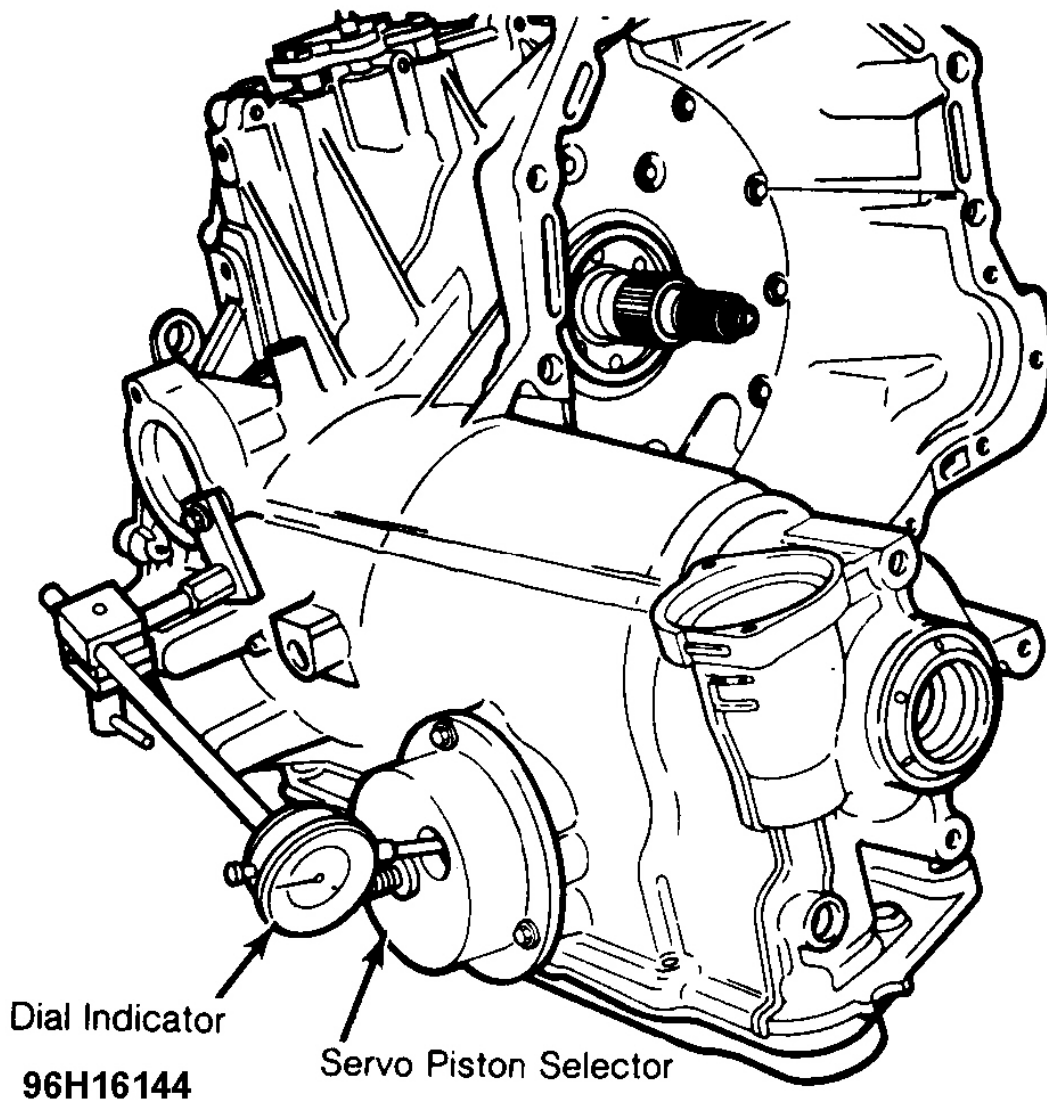

Fig. 37: Low-Intermediate Servo Check
1. Install spring from Low-Intermediate Servo Kit (T86P-70023-A). Install servo piston (without seal) and rod in case. Install servo piston gauge from kit and secure in case using servo cover bolts. Tighten bolts to 90 INCH lbs. (10 N.m). Tighten gauge screw to 30 INCH lbs. (3.4 N.m). See **Fig. 37**.